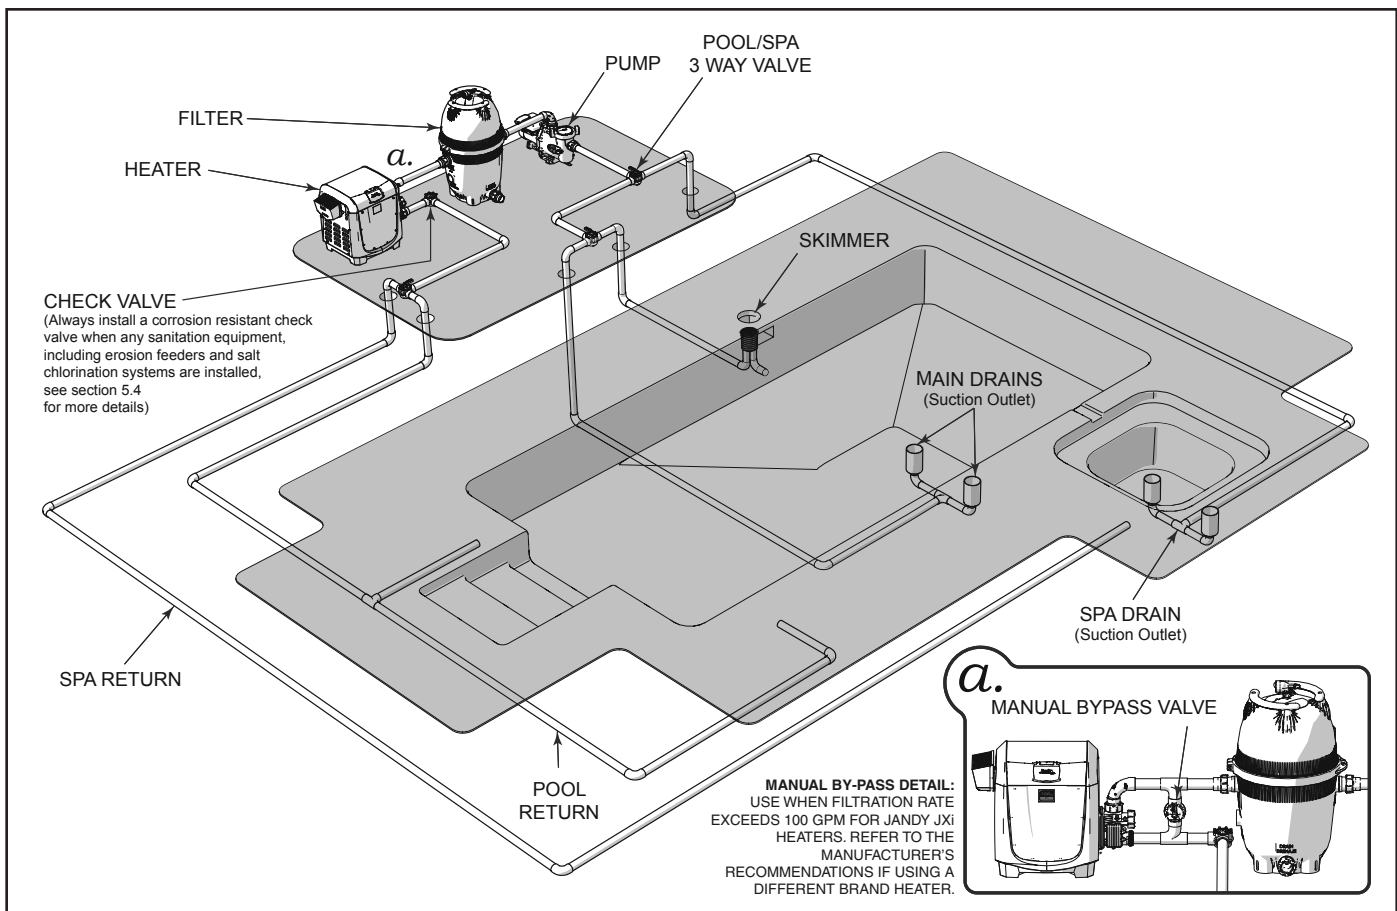

Figure 7. Typical Water Piping Configuration
Install pool system components with connections as illustrated in *Figure 7*. Any configuration other than as illustrated in *Figure 7* can affect the operation of the water pressure switch. Locating the heater above or below the pool water surface can also affect operation of the water pressure switch.
- Connect ball valve between water inlet and outlet. See inset “a.” in *Figure 7*.